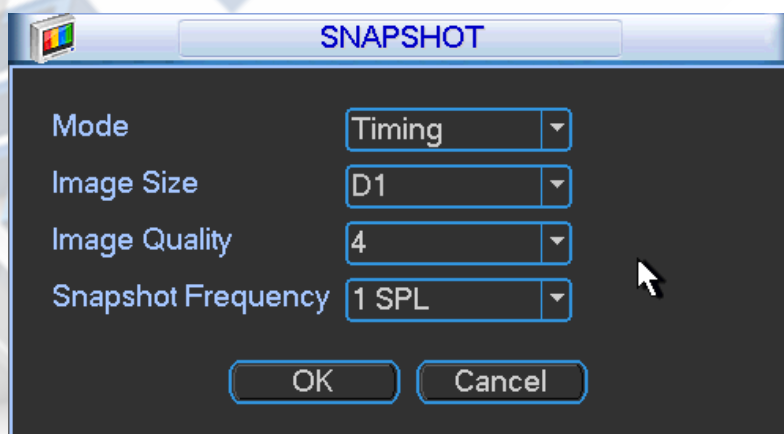

Figure 5-38
Select the snapshot channel from the dropdown list and then click Snapshot button. See Figure 5-38.
- b) Select the motion detect snapshot channel and then click Snapshot button. See Figure 5-38.
- c) In Figure 5-38, select activation snapshot from the dropdown list and then set picture size, quality and snapshot frequency. Click OK button to save current setup.
From Main menu->Setting->Schedule, you can go to schedule interface. See Figure 5-38. Check the box here to enable holiday function and snapshot function. Set period as Holiday.